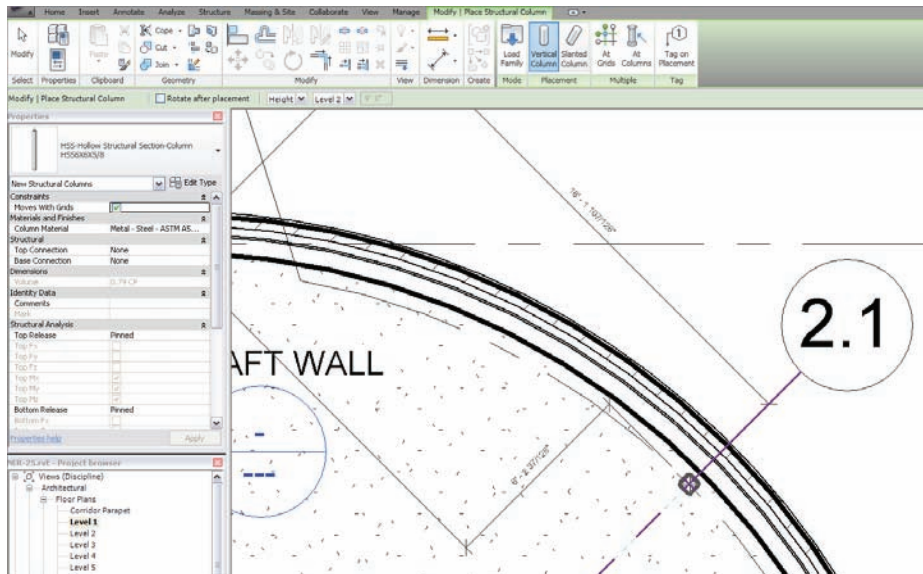

FIGURE 8.27 Placing and rotating a column
4. Press the Tab key on your keyboard, and the column will rotate to align with the grid, as shown in Figure 8.27.